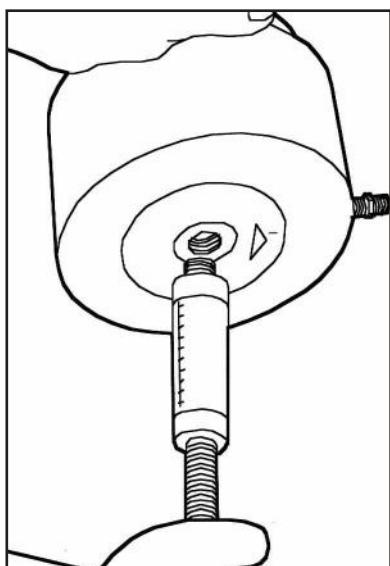

Figure 54
- Remove the stroke adjuster. Loosen the knurled lock/set nut on top of the motor cylinder body to unscrew the adjuster from the motor cylinder. (Fig.54)